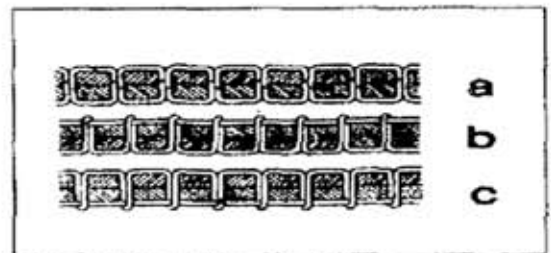

Fig.6
## 11. Adjustment of the thread tension (Fig.6、 7、 8):
- 1) The tension of the upper and lower thread must be equal so as to adopt normal stitch. (Fig.6 a)